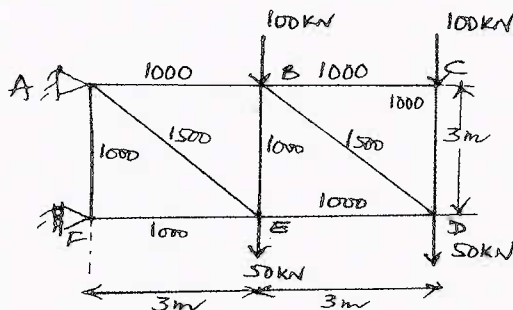

Fig.Q3
3. For the frame loaded as shown in Fig.Q3, calculate the vertical deflection at joint D. Take  $E = 200 \text{ kN/mm}^2$ . Areas of each member in  $\text{mm}^2$  is shown along the side of the member. Adopt unit load method. (20 Marks)